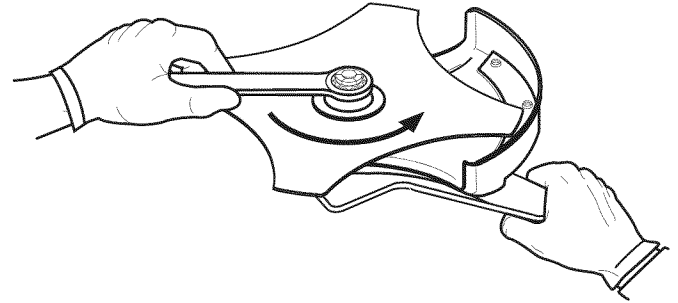

Fig. 17
7. Tighten the nut counterclockwise with a 5/8 inch wrench (Fig. 17):